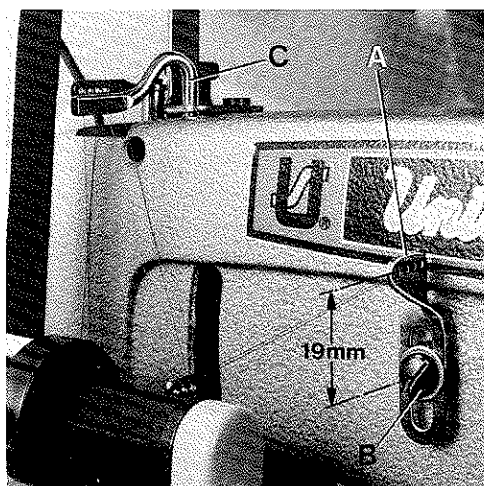

Fig.32
Set the needle thread frame eyelet (A, Fig. 32) 19 mm (3/4 in.) above the center of mounting screw (B). Lower it for more needle thread, raise it for less needle thread in the stitch. Set the take-up wire (C) for the needle threads as low as possible. Raising the take-up wire increases the needle thread loops.
Stellen Sie die Nadelführung am Gehäuse (A, Fig. 32) 19 mm hoch zur Mitte der Befestigungsschraube (B) ein. Tieferstellen ergibt mehr, höherstellen weniger Nadelfaden in der Naht.